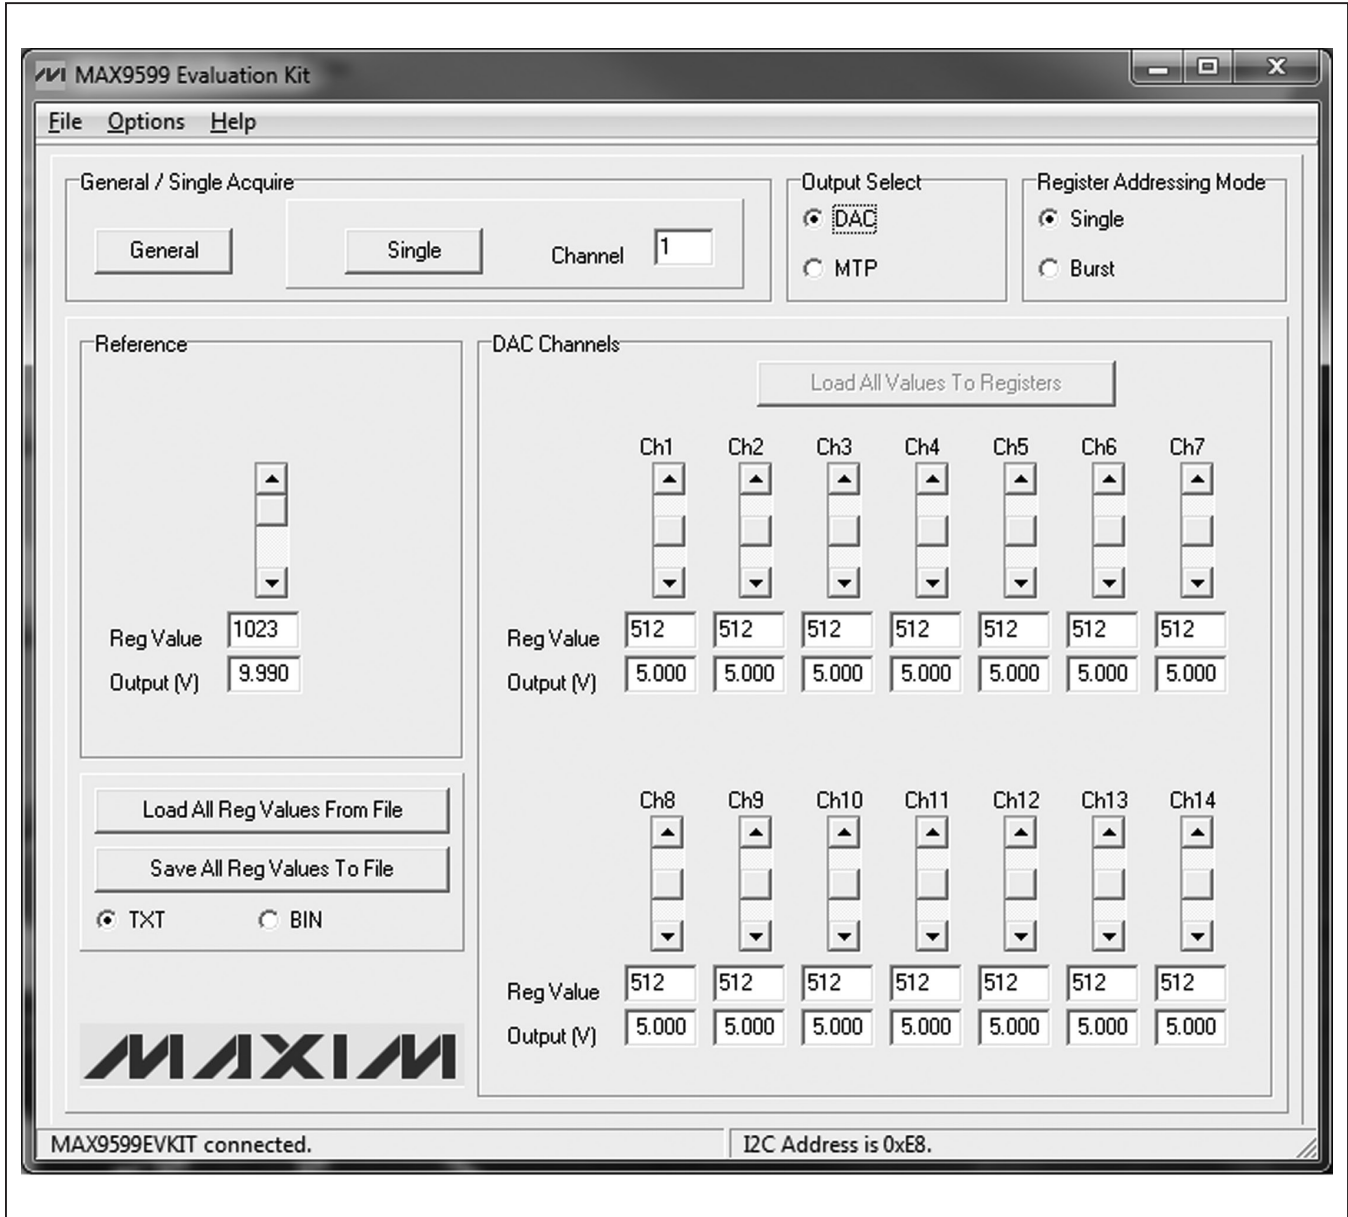
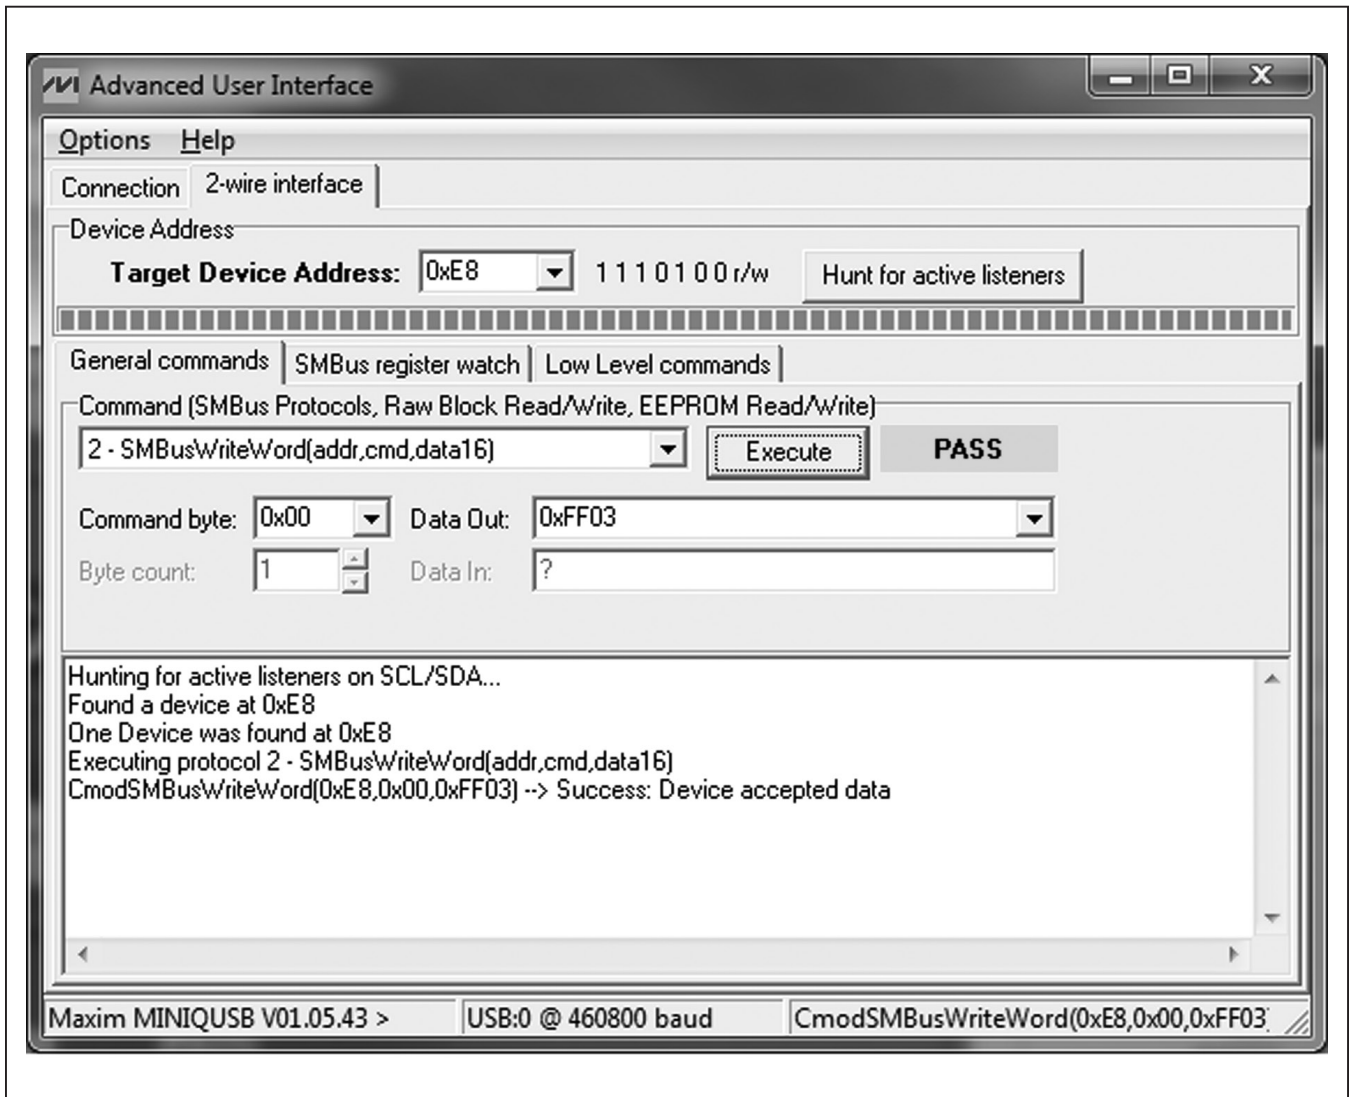

Figure 1. MAX9599 Evaluation Software Main Window (DAC and Single Radio Button Selection)
Figure 4. Advanced User Interface Window (2-Wire Interface Tab)
- 5) Start the EV kit software by opening its icon in the **Start | Programs** menu. The EV kit software main window appears, as shown in Figure 1.
- 8) Verify that the PL\_GMA1 output voltage is close to the voltage shown in the **Ch1 Output (V)** edit box.
The main window of the MAX9599 EV kit software (Figure 1) displays the register values and output voltages for the programmable reference voltage and all DAC channels. Other features include DAC and MTP output selection, register addressing mode, saving, and loading register values.
When the **DAC** and **Single** radio buttons are selected (Figure 1), the steps above change its register value instantaneously. When the **DAC** and **Burst** radio buttons are selected, the **Load All Values To Registers** button
There are two methods for communicating with the device. The first is through the windows shown in Figures 1, 2, and 3. The second is through the **Advanced User Interface** window shown in Figure 4. The **Advanced User Interface** window becomes available by selecting the **Options | Interface (Advanced User)** menu item and allows execution of serial commands manually.